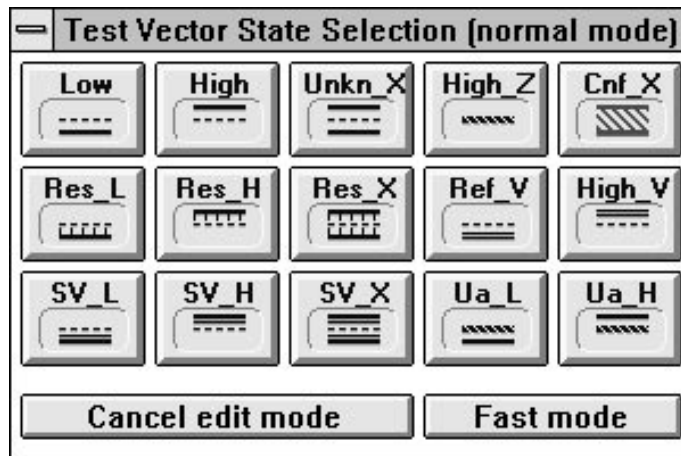

Figure 2-18. State selection window.
- ☐ Bring up the **Test Vector State Selection** window (Figure 2-18). Next, click on the selected logical state button in Figure 2-18. The selected logical state is assigned to the signal line and displayed next to the assigned keyboard key
1. Click on the **Edit** option within the **Waveform** menu. This displays the **Test Vector State Selection** window with 15 logical state buttons (Figure 2-18).
4. Following this procedure, you can create any number of signal changes by selecting the change location with the blue vertical cursor and then selecting the appropriate signal logical states from the **Test Vector State Selection** window (Figure 2-18).